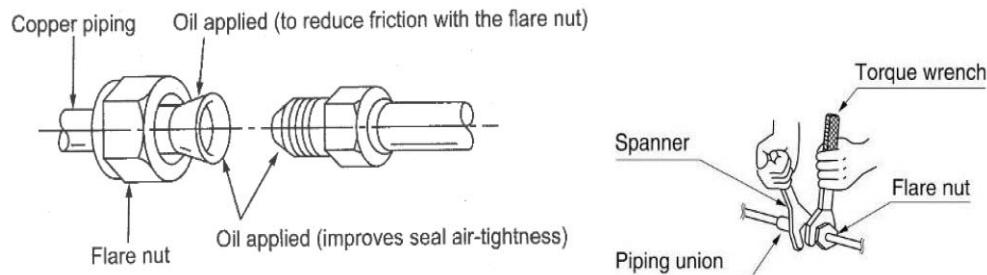

Figure 3-2-6
When connecting the pipe to the unit or removing it from the unit, please do use both the spanner and the torque wrench. (Figure 3-2-6)
Examine the connection pipe to see if it leaks, then take the treatment of heat insulation, as shown in the Figure 3-2-6.
### (1) For solid core wiring (Figure 3-2-6)
### (2) For strand wiring (Figure 3-2-6)